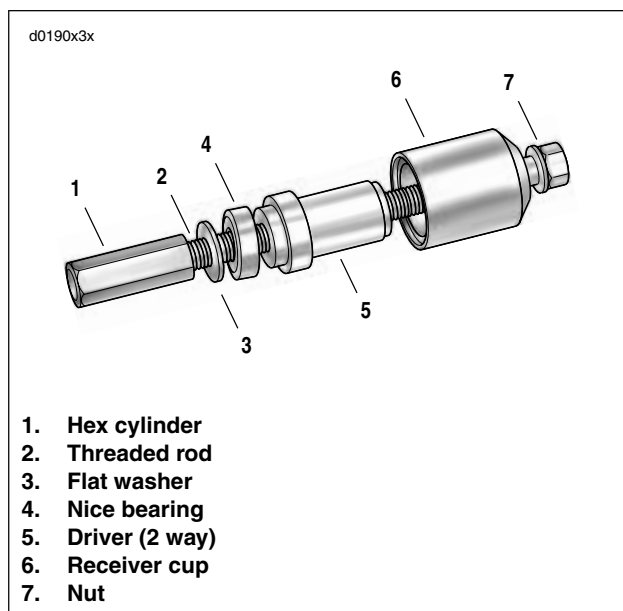

Figure 3-81. Connecting Rod Bushing Remover/Installer (Part No. HD-95970-32D)
2. See Figure 3-81. Attach PISTON PIN BUSHING TOOL (Part No. HD-95970-32D) to the connecting rod.